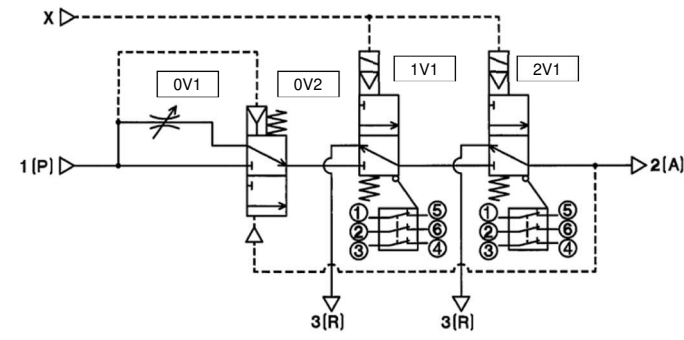
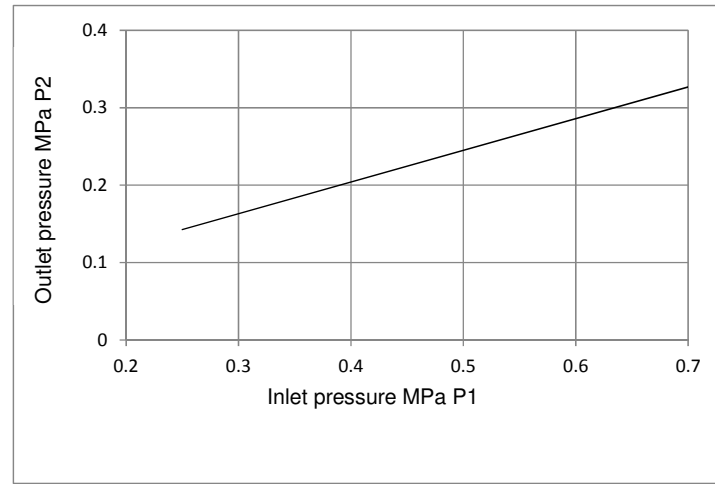

Figure 4 External pilot, Rockwell switch variant
Figure 5 Switching pressure (Close → Open) of soft start-up valve 0V2
In a safety related application, the machine safety system will energise the safety dump valves (1V1 and 2V1 in Figure 4) when the machine is safe for operation. When both valves are energised air will flow into the protected system via port 2 (A). The flow is initially limited by needle valve 0V1 and pressure in the protected system will remain low as the system fills or actuators move slowly. The pressure will eventually rise as the system becomes full or the actuators stop moving. As P2 pressure increases (see Figure 5) valve 0V2 switches and valve 0V1 is by-passed. In this condition air will flow into the protected system according to the figures given in section 2.3. When either of the dump valves 1V1 or 2V1 are de-energised the protected system is vented to atmosphere. When the protected system pressure drops below P2 valve 0V2 returns to its spring state with 0V1 limiting the flow to 1V1 and 2V1.